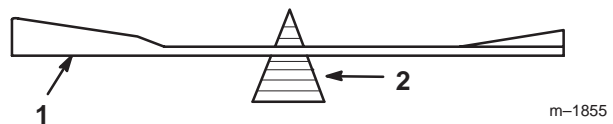
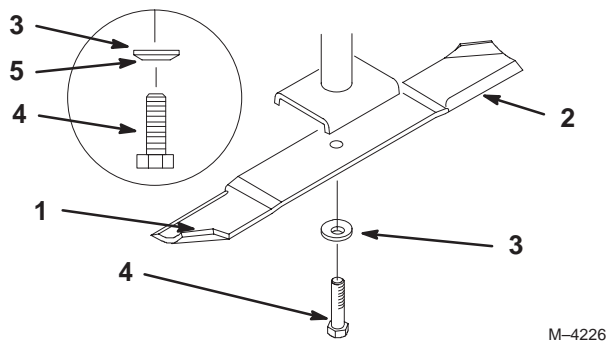

Figure 34
Figure 35
1. Hold the blade end using a rag or thickly-padded glove. Remove the blade bolt, spring disk and blade from the spindle shaft (Fig. 35).
2. Check the balance of the blade by putting it on a blade balancer (Fig. 34). If the blade stays in a horizontal position, the blade is balanced and can be used. If the blade is not balanced, file some metal off the end of the sail area only (Fig. 35). Repeat this procedure until the blade is balanced.
1. Install the blade onto the spindle shaft (Fig. 35).
2. Install the spring disk and blade bolt (Fig. 35). **Torque the blade bolt to 85–110 ft-lb (115–150 N•m).**